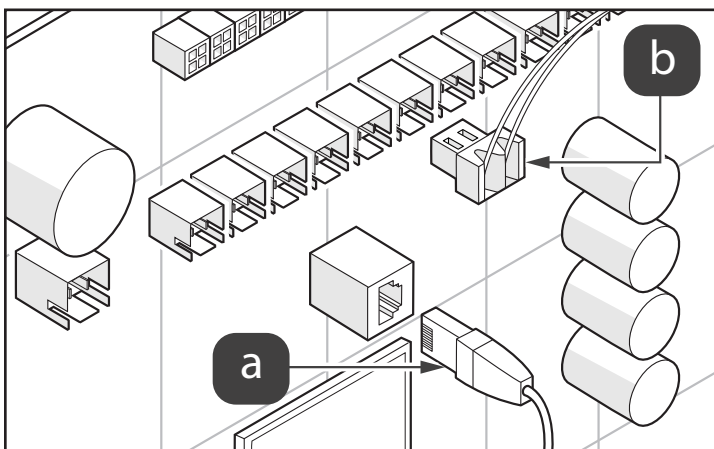

Figure 10. Unplug Auxiliary Relays
- Disconnect the Ethernet cable, see Figure 10(a).
- Unplug the auxiliary relays, see Figure 10(b).